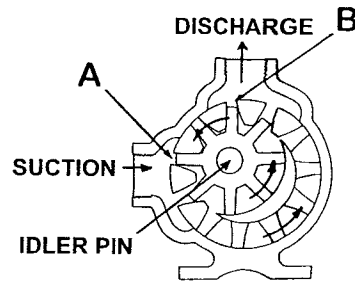

FIGURE 3
- Suction/Discharge** - shaft rotation will determine which port is suction and which is discharge. A look at **Figure 3** will show how rotation determines which port is which; as the pumping elements (gears) come out of mesh, point "A" on **Figure 3**, liquid is drawn into the suction port; as the gears come into